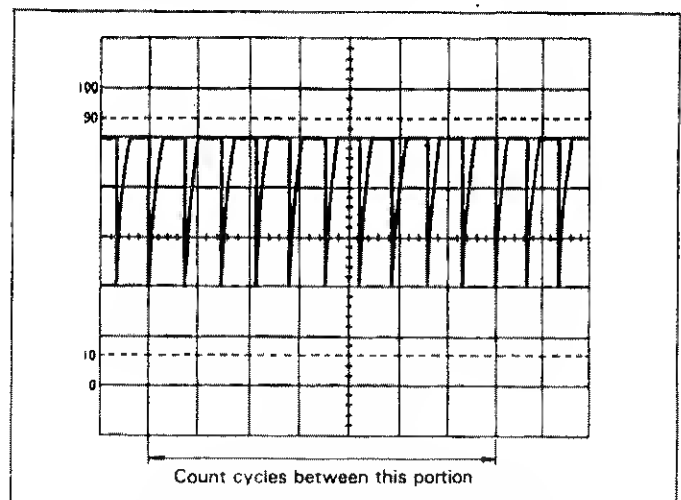

Fig. 10. Alternate Method of Frequency Measurement.
(Refer to Fig. 10)
2. Count the number of cycles of waveform between a chosen set of vertical graduation lines (see Fig. 10).
For the example shown in Fig. 10, there are 10 cycles within 7 divisions. If the sweep **TIME/DIV** is 5 μs and **X10 Mag** is not used, the frequency is calculated as follows: